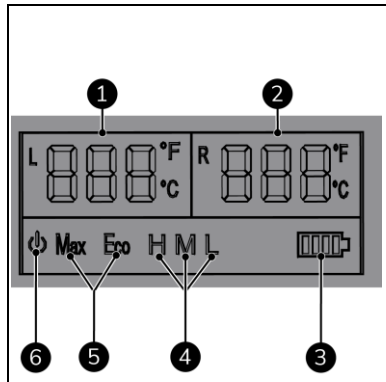

Figure 6
- Temperature (Figure 6, pos. 1 & 2) shows the set or current temperature in the left or right box (Celsius or Fahrenheit).
- Battery (Figure 6, pos. 3) shows the status of the vehicle battery.
- Battery protection (Figure 6, pos. 4) shows the currently selected battery protection mode (high, medium or low).
- Cooling capacity (Figure 6, pos. 5) shows the cooling capacity (MAX or ECO).
- ON/OFF (Figure 6, pos. 6) shows if the device is on or off.
When the device is connected to the power supply, the on/off indication light (Figure 6, pos. 7) is on.